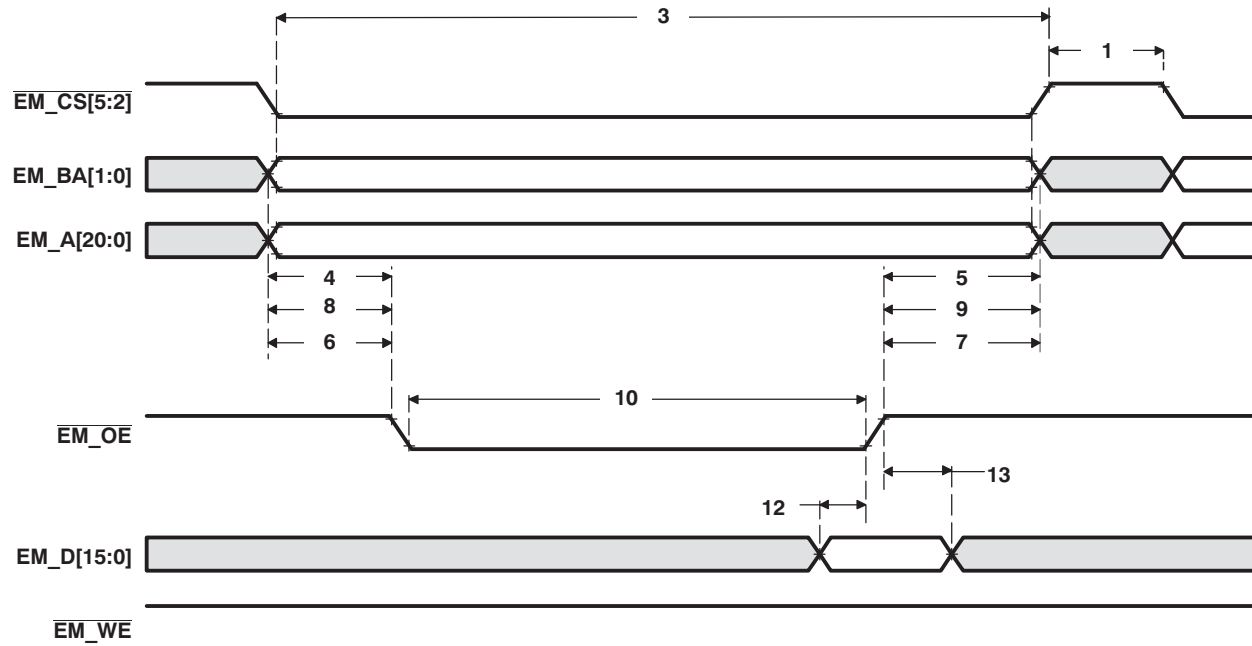
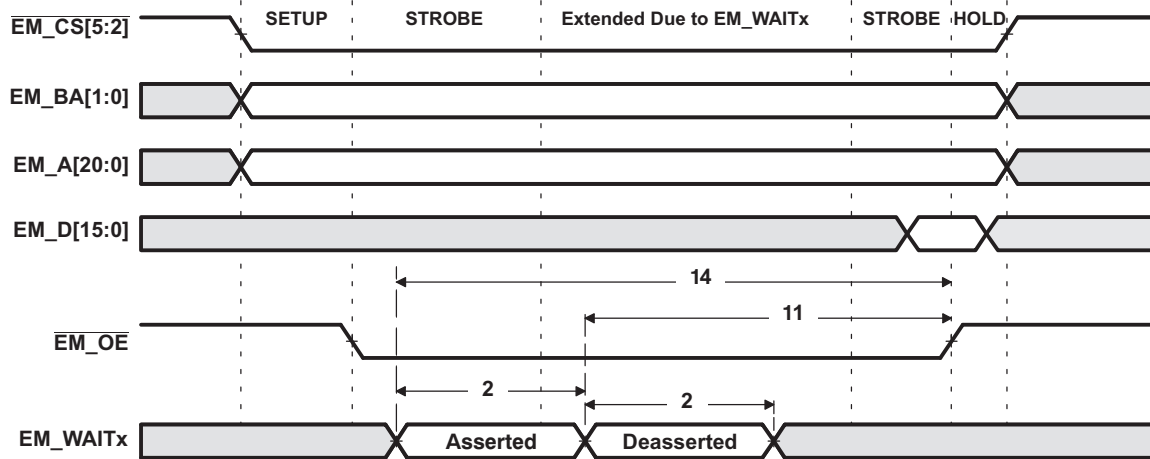
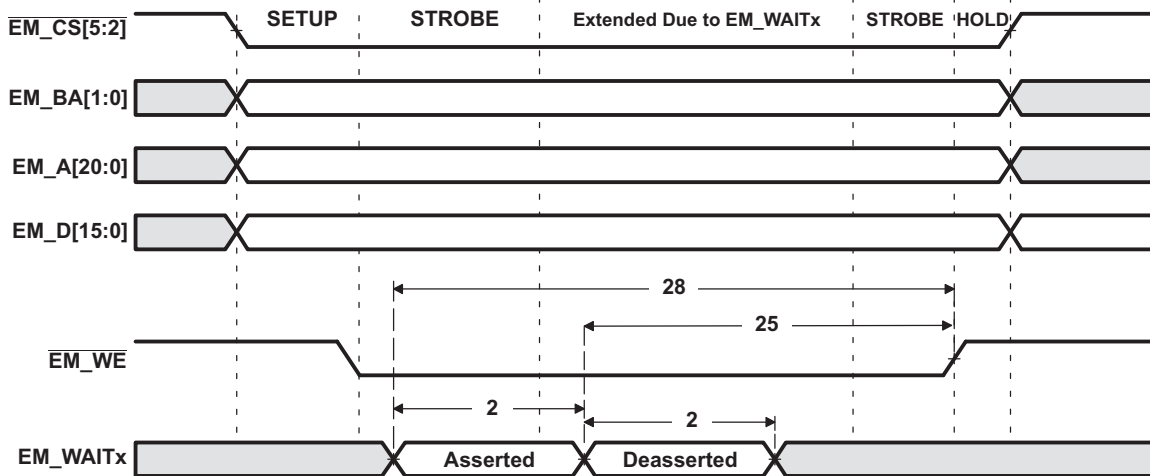

Figure 5-17. Asynchronous Memory Read Timing for EMIF
Figure 5-19. EM_WAITx Read Timing Requirements
Figure 5-20. EM_WAITx Write Timing Requirements
Table 5-18. Timing Requirements for EMIF Asynchronous Memory⁽¹⁾ (see Figure 5-17, Figure 5-19, and Figure 5-20)
- (1) E = SYSCLK period in ns, if EMIF is set for "full rate" **or** E = SYSCLK/2 period in ns, if EMIF is set for "half rate" as defined by bit 14 of the EMIF Status register (0x1001h). For example, when EMIF is set to full rate and SYSCLK is selected and set to 100/120 MHz, E = 10/8.33 ns, respectively.
- (2) Setup before end of STROBE phase (if no extended wait states are inserted) by which EM_WAITx must be asserted to add extended wait states. Figure 5-19 and Figure 5-20 describe EMIF transactions that include extended wait states inserted during the STROBE phase. However, cycles inserted as part of this extended wait period should not be counted; the 4E requirement is to the start of where the HOLD phase would begin if there were no extended wait cycles.
Table 5-19. Switching Characteristics Over Recommended Operating Conditions for EMIF Asynchronous Memory^{(1) (2) (3)} (see Figure 5-17, Figure 5-19, and Figure 5-20)
Table 5-19. Switching Characteristics Over Recommended Operating Conditions for EMIF Asynchronous Memory ⁽¹⁾ ⁽²⁾ ⁽³⁾ (see Figure 5-17 , Figure 5-19 , and Figure 5-20) (continued)